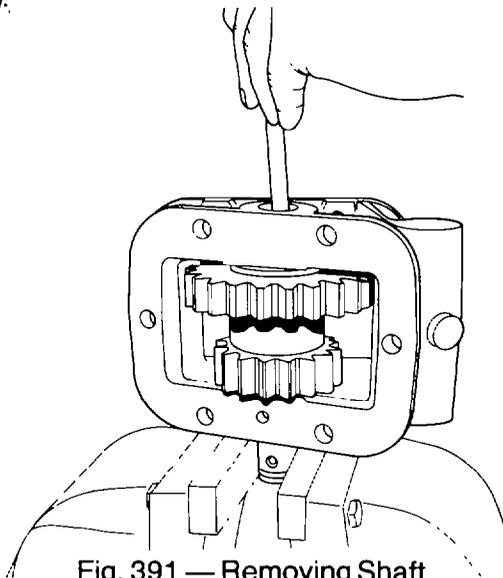

Fig. 391 — Removing Shaft
- b. Support the adapter housing and remove the shaft. Use a suitable drift and hammer to drive the shaft out from the opposite end to the roll pin to avoid possible damage to the needle roller bearings (see fig. 391).